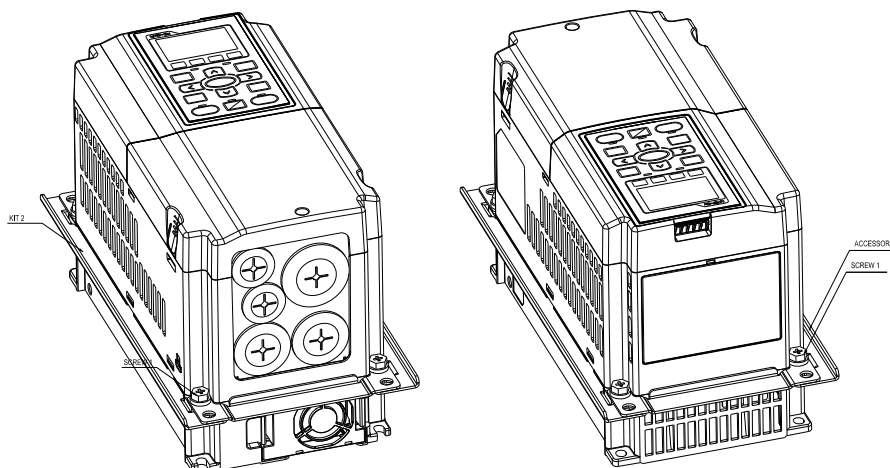

Figure 2
2. Fasten screw*2(M6) and accessory 2&3. Screw torque: 25~30 kg-cm / [21.7~26 lb-in.] / [2.5~2.9 Nm] (figure 2)